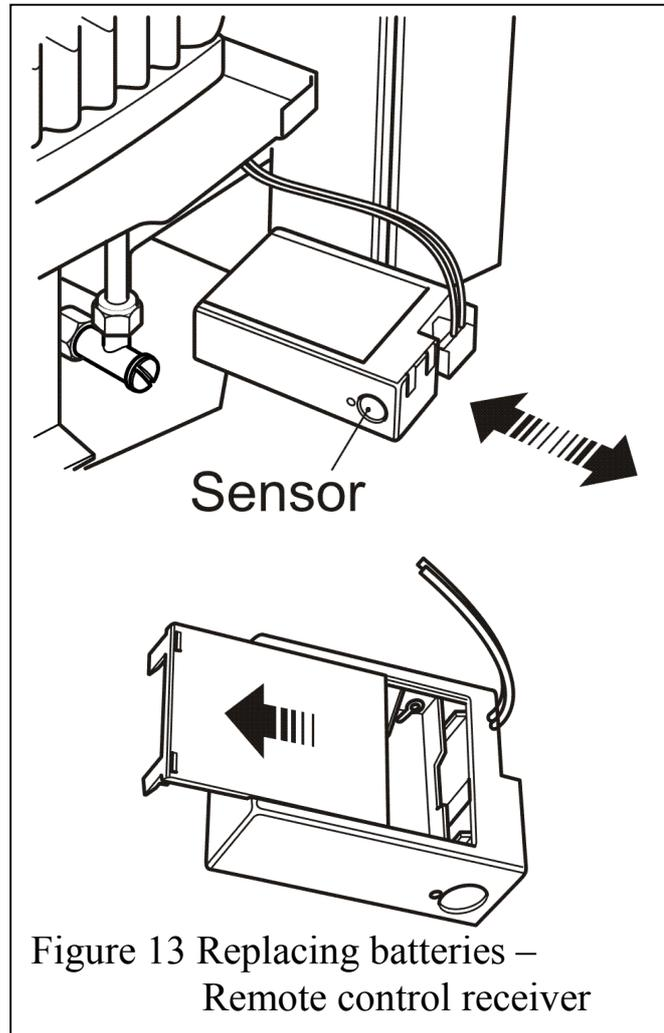

Figure 13 Replacing batteries – Remote control receiver
- Slide the receiver unit from its location box at the bottom right side of the fire (see figure 13).
- Refit the receiver unit into its location box making sure that the sensor is at the left side (see figure 13).